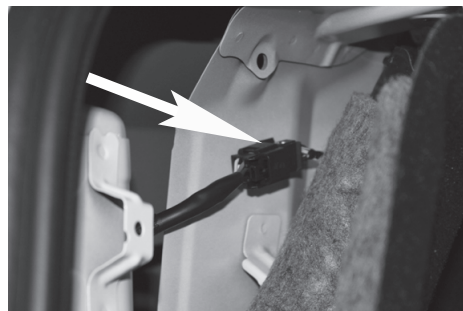

Figure 3
4. Gently pull back felt trunk liner to locate vehicle's taillight connectors shown in **Figure 3**. They will be similar to those on RV Harness. Press locking tabs and separate vehicle's connectors on both sides.